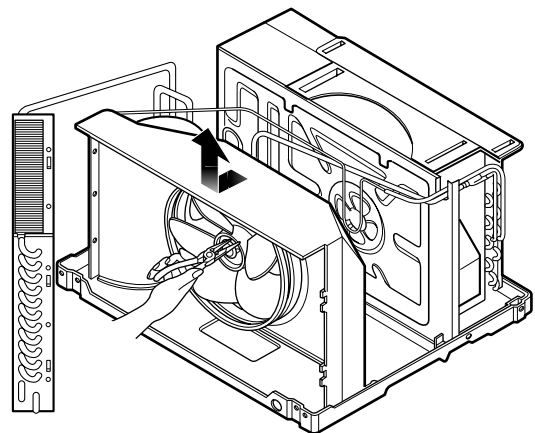

Figure 6
6. Remove the fan and then pull out the shroud. (See Figure 6)